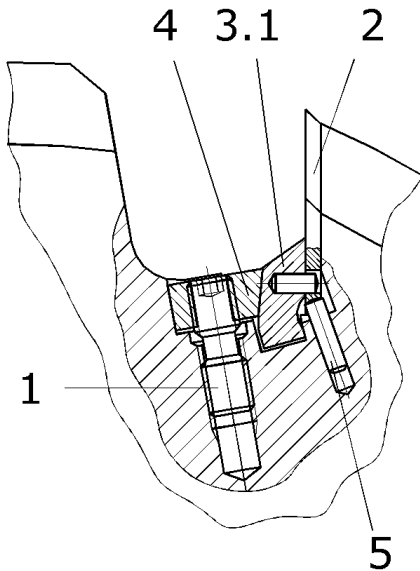

Fig.1
(See Figures 1, 2, and 3)
6. Place assembled profile knife and gib, precisely into the knife seat (see Fig. 1 and 2).